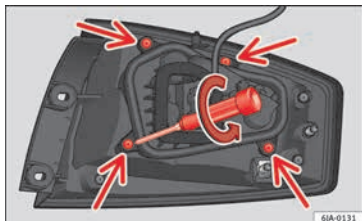

Fig. 100 Retaining screws on reverse side of rear light unit.
- Unscrew the four retaining screws from the bulb holder anti-clockwise using a screwdriver or a Torx 20 key (T20) from the vehicle tool kit » **Fig. 100**. Take care not to lose the bulb holder retaining screws.